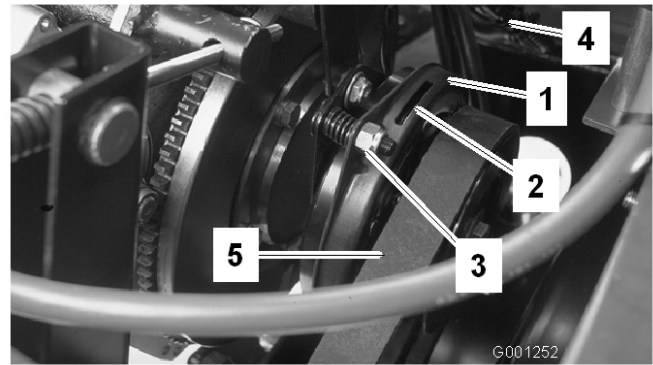

Figure 61
- Unplug the clutch electric connector (Figure 61).
- Adjust the air gap so that a 0.015 inch feeler gauge slides in between the clutch lining and friction plate with light pressure (Figure 61). The gap can be decreased by turning the adjusting nut clockwise (Figure 61). The maximum service gap is 0.030 inch.